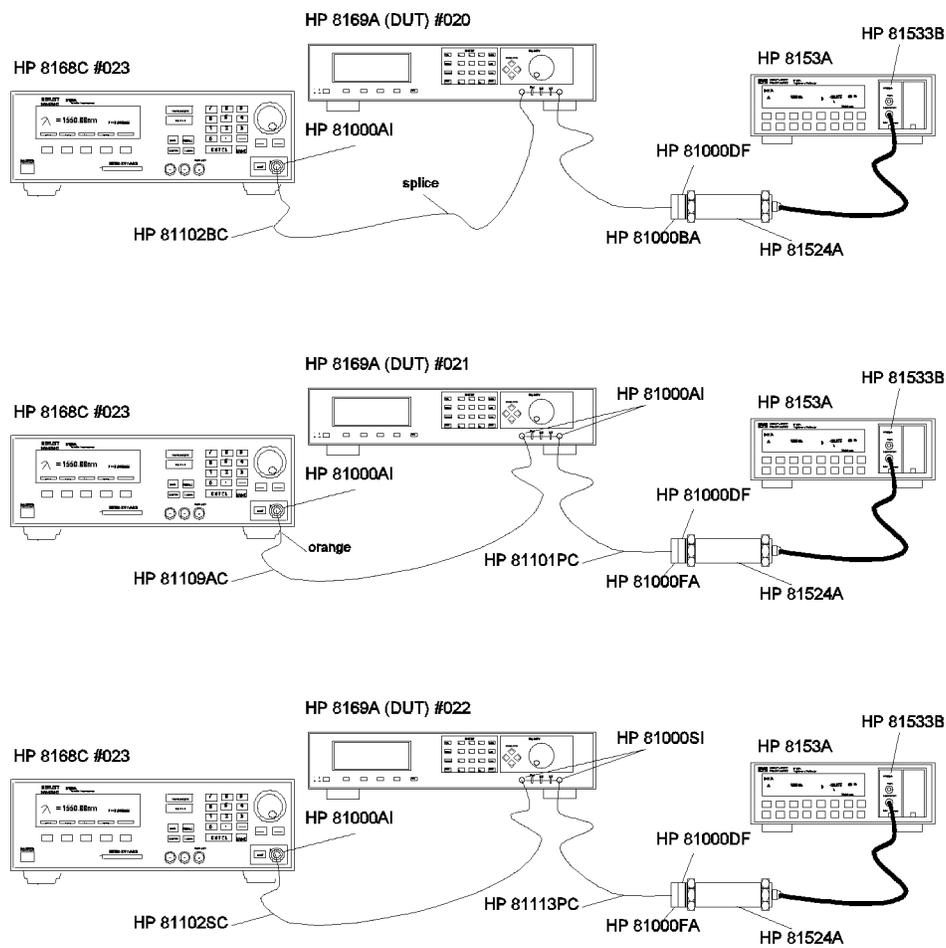

Figure D-1. Test Setup for Measuring the Insertion Loss
2. Set up the hardware as shown in Figure D-1.